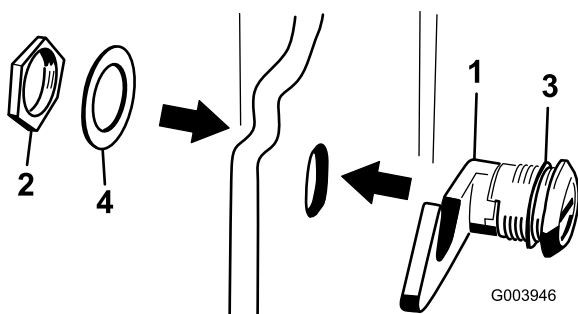

Figure 5
3. Remove the nut from the hood-latch assembly (Figure 5).
4. Outside the hood, insert the hook end of the latch through the hole in the hood and make sure that the rubber-sealing washer remains to the outer side of the hood (Figure 5).